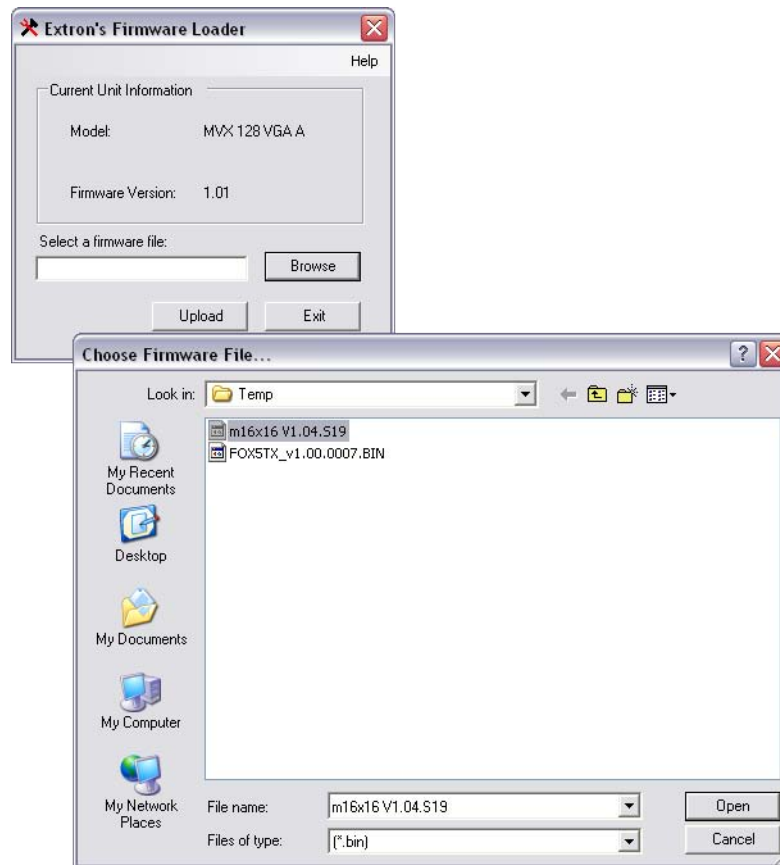

Figure 5-8 — Open window
5. Click **Tools** > **Update firmware**. The Extron Firmware Loader utility appears (figure 5-8).
6. If necessary, click **Browse**. The open file window appears (figure 5-8).